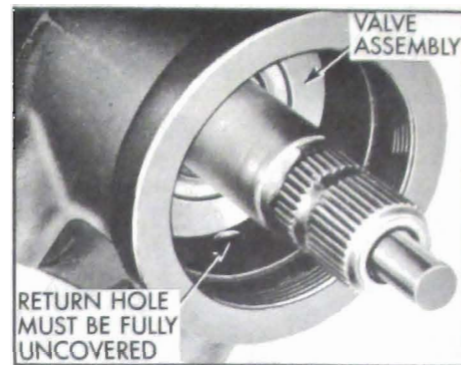

Figure 8-56—Valve Assembly Properly Installed in Housing
the valve body with the finger tips. Do not press on stub shaft or torsion bar. See Figure 8-55. The return hole in the gear housing should be fully visible when valve is assembled properly. See Figure 8-56.
2. Insert the valve assembly and worm in gear housing as an integral unit. Do not press on stub shaft or torsion bar. See Figure 8-55. Return hole in housing should be fully visible when valve and worm are properly installed. See Figure 8-56.